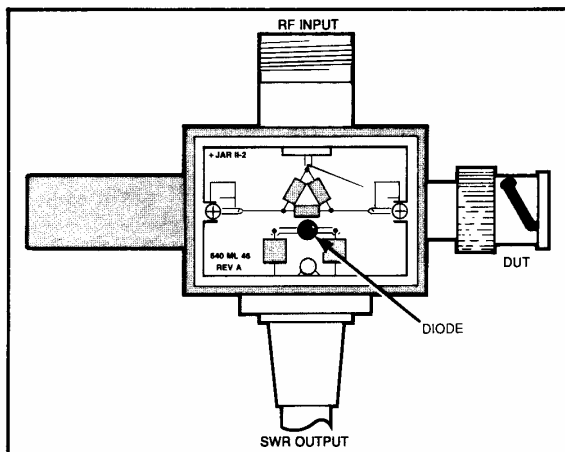

Figure 8-1. Autotester PCB with diode.
- Unplug and remove the defective diode (Figure 8-1) from the SWR Autotester circuit board.